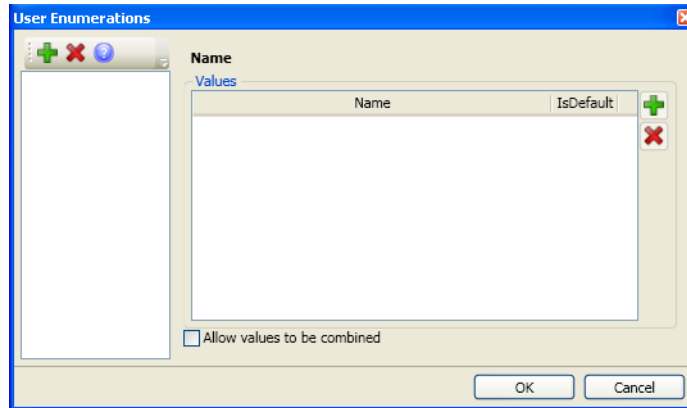

Figure 41. User Enumerations
1. Click  in the toolbar appearing on top of the **User Enumerations** window, to create a new user enumeration. Refer Figure 41.